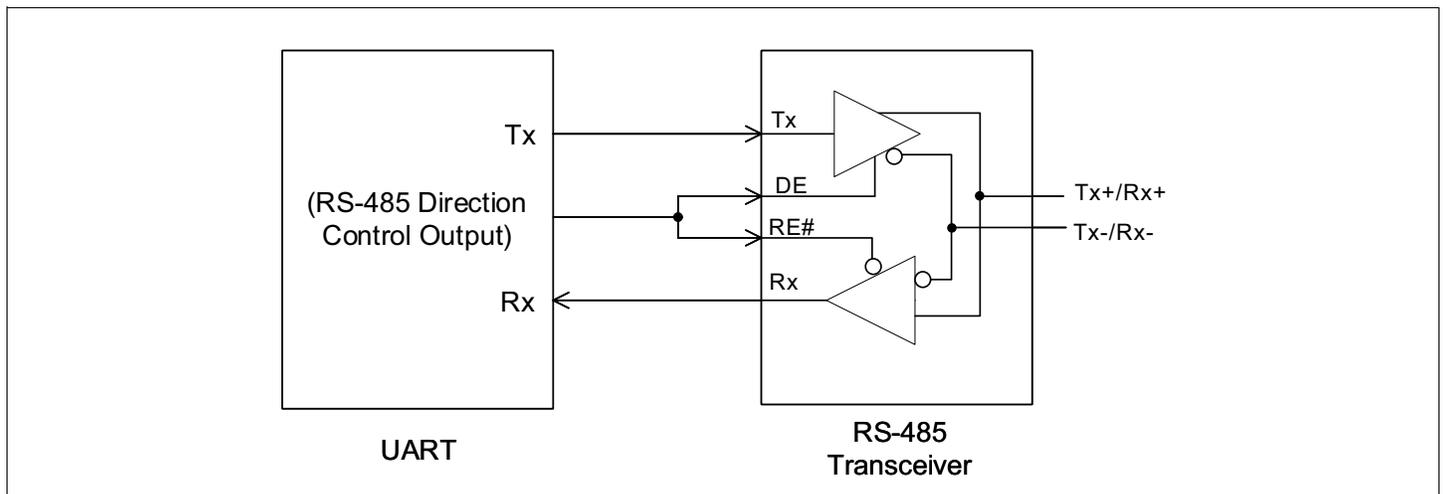

Figure 1: Typical Connection between UART and RS-485 Transceiver
Figure 1 shows the typical connection of a UART to a half-duplex RS-485 transceiver. The same output from the UART controls both the driver enable (DE) and receiver enable (RE#) inputs to guarantee that the RS-485 transceiver is only either transmit mode or receive mode.